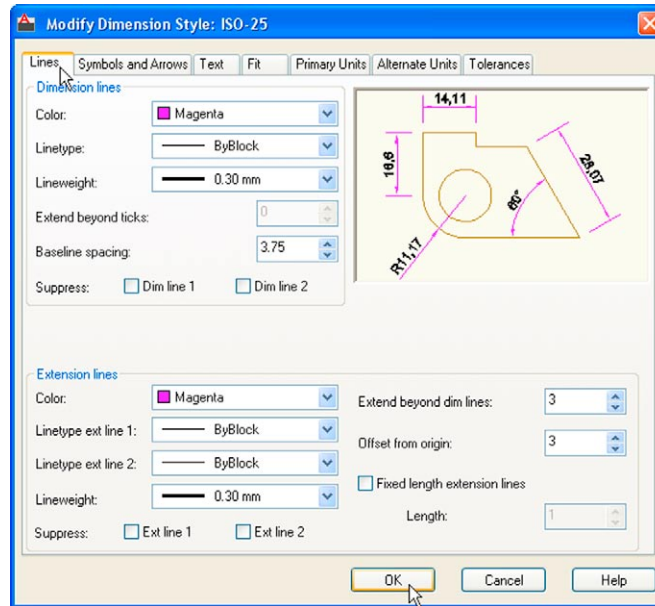

Fig. 4.11 The setting for **Lines** in the **Modify Dimensions Style** dialog
3. The **Modify Dimension Style** dialog appears (Fig. 4.11). This dialog shows a number of tabs at the top of the dialog. *Click* the **Lines** tab and make settings as shown in Fig. 4.11. Then *click* the **OK** button of that dialog.